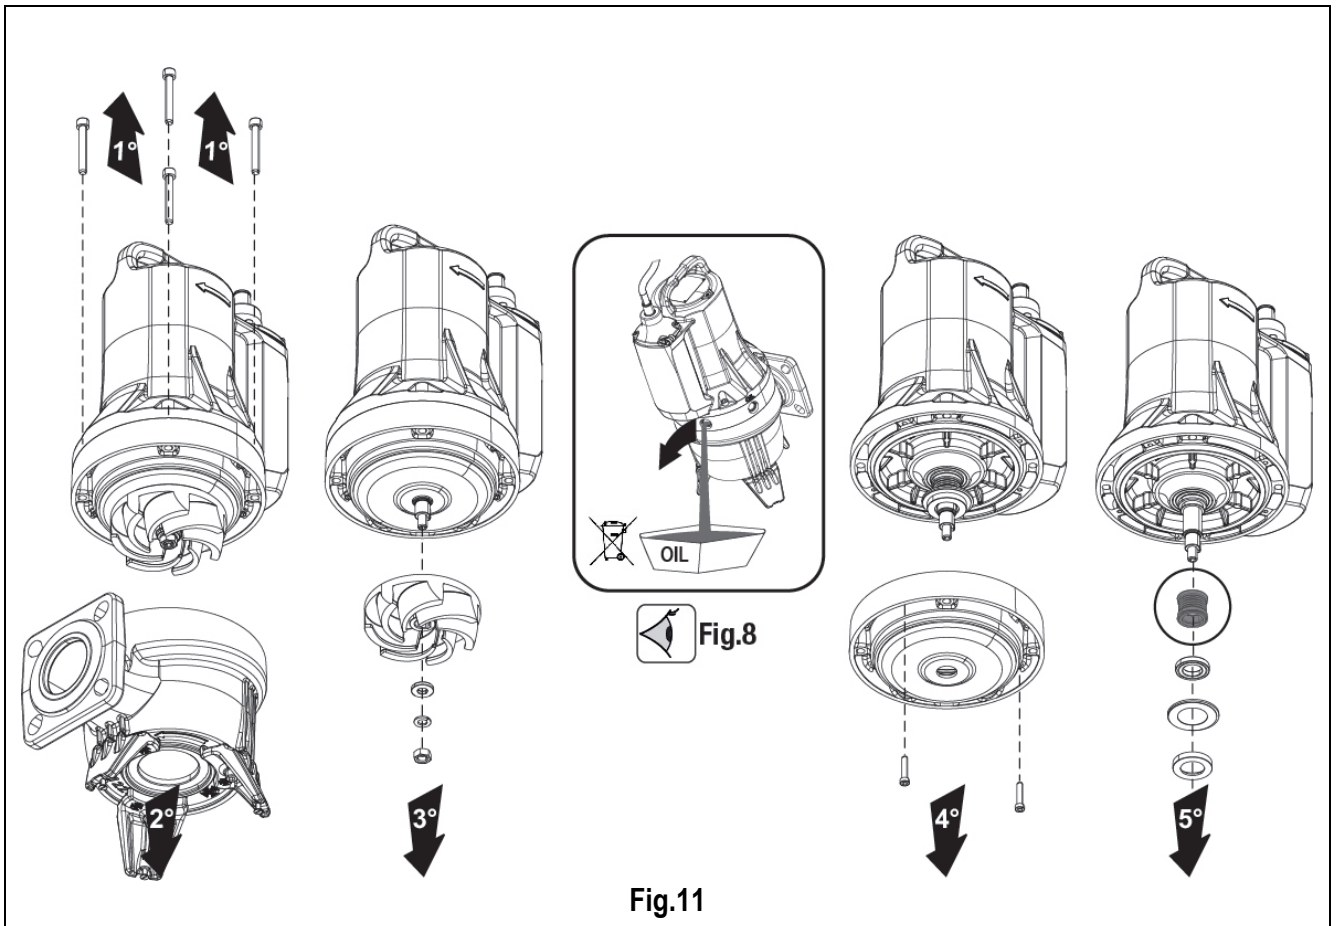

Fig.11
- **Mechanical Seal replacement (Fig.11)**